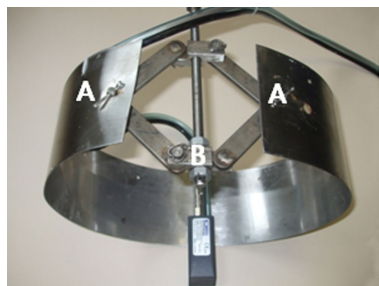

Figure 5: Stainless Steel ring with the Scissor Expander fitted
6. If a scissor expander is required (usually for larger rings over a 300mm diameter), secure it to the ends of the fixing ring with the stainless steel split pins provided as shown in Figure 5. Figure 5 shows the AV sensor position at the bottom of the ring below the expander. Split pins are used to hold the scissor expander to be fitted to the ring ready for insertion into the open end of the pipe, which is usually done after the sensor and cable is secured to the ring